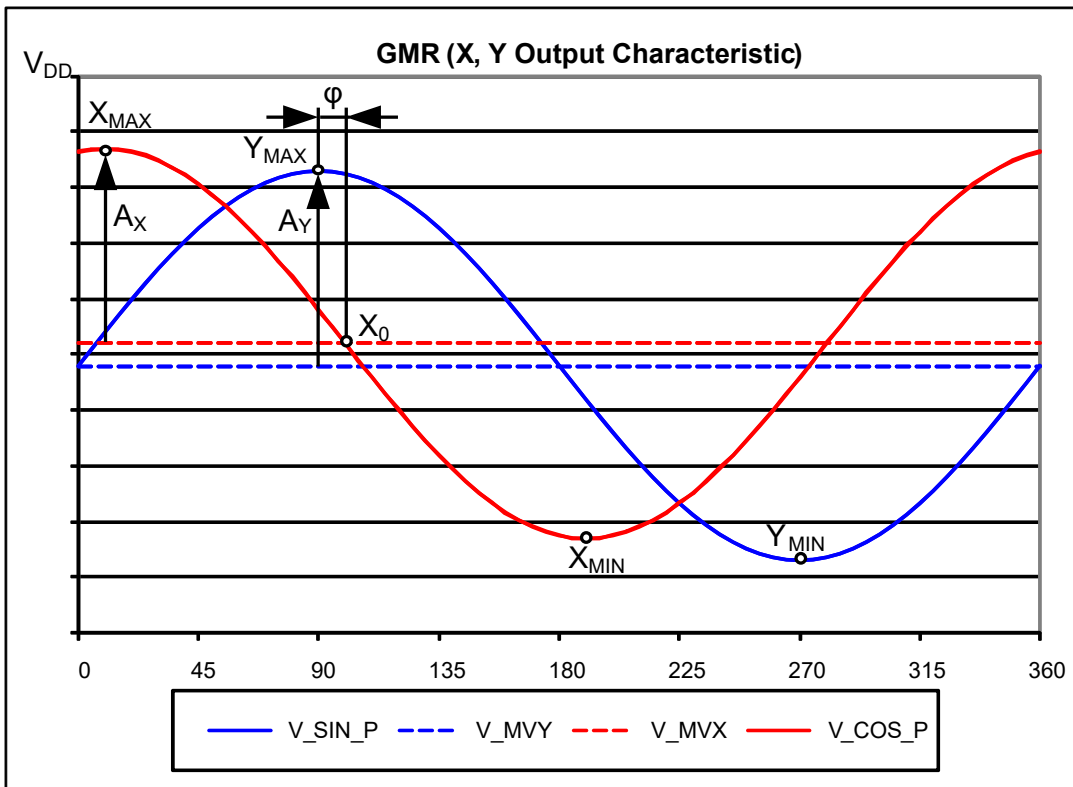
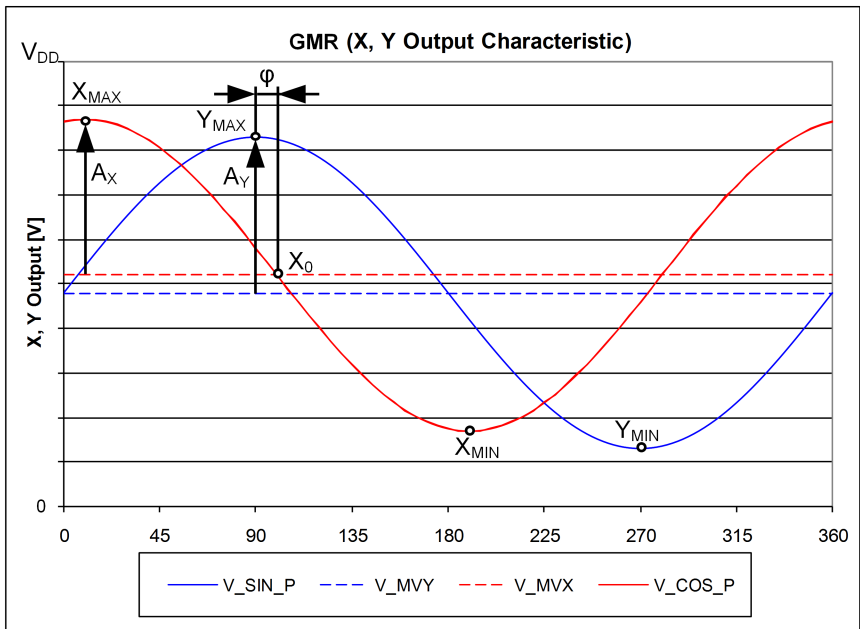

Figure 16 GMR sensor single-ended output signals
Figure 17 AMR sensor single-ended output signals
All parameters apply over the full operating range, unless otherwise specified. The parameters in Table 9 refer to single pin output and Table 10 to differential output. For variable names please refer to Figure 16 on page 21 and Figure 18 on page 22.
1) V_{max} and V_{min} correspond to the voltage levels at X_{max} or Y_{max} and X_{min} or Y_{min} respectively as shown in Figure 16, Figure 17.